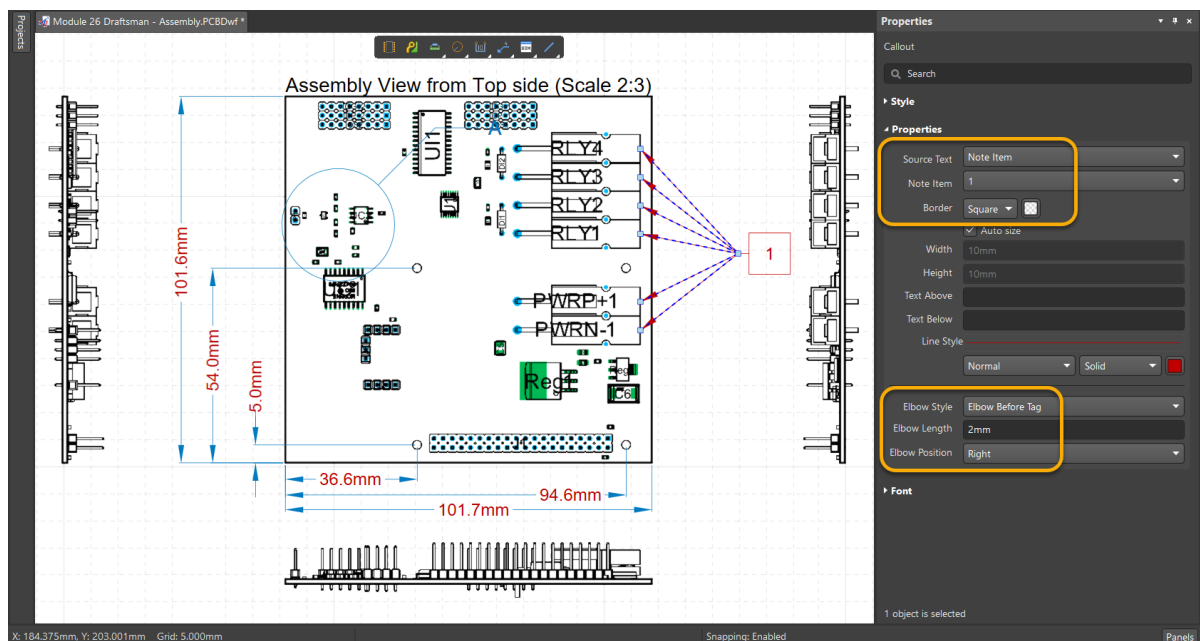

Figure 7. Callout configuration
18. Select the Callout and open the *Properties* panel to configure the parameters for the callout, as seen at Figure 7.